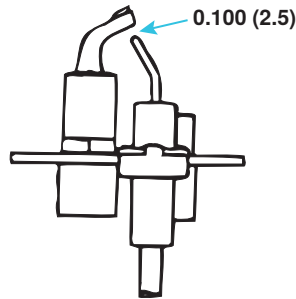

Figure 30. Pilot Spark Gap
- c. Verify that pilot spark gap (see Figure 30) is approximately 0.100 inch (2.5 mm).